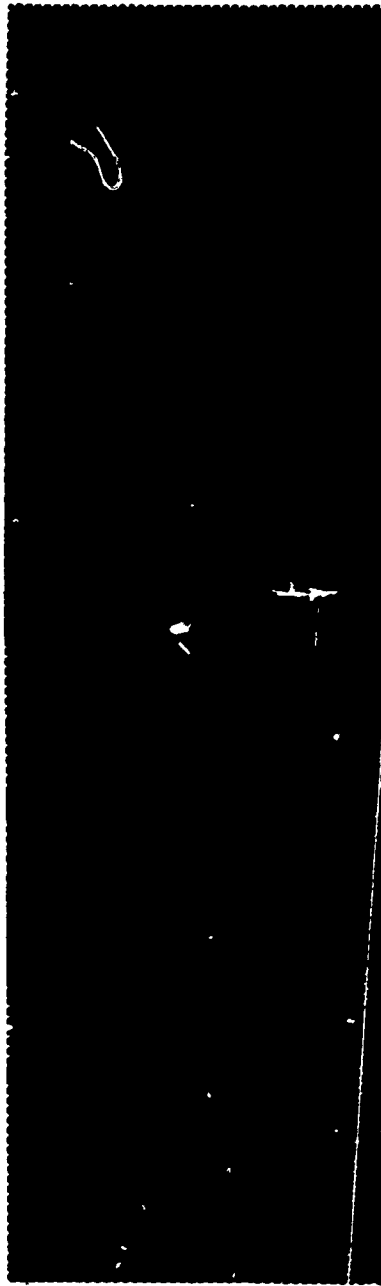

Fig. 42
2. Sketched below (Fig. 42) are a few pattern pieces with certain marking symbols omitted. Fill in all of the markings omitted.